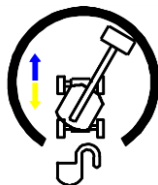

Figure 8-1 Drive Enable
- Turn the rotary table until the boom is at a certain angle, as shown in Figure 8-1.